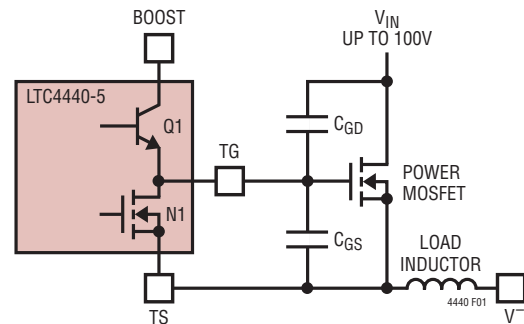

Figure 1. Capacitance Seen by TG During Switching
A simplified version of the LTC4440-5's output stage is shown in Figure 1. The pull-down device is an N-channel MOSFET (N1) and the pull-up device is an NPN bipolar junction transistor (Q1). The output swings from the lower rail (TS) to within an NPN V_{BE} (~0.7V) of the positive rail (BOOST). This large voltage swing is important in driving external power MOSFETs, whose $R_{DS(on)}$ is inversely proportional to its gate overdrive voltage ($V_{GS} - V_{TH}$).